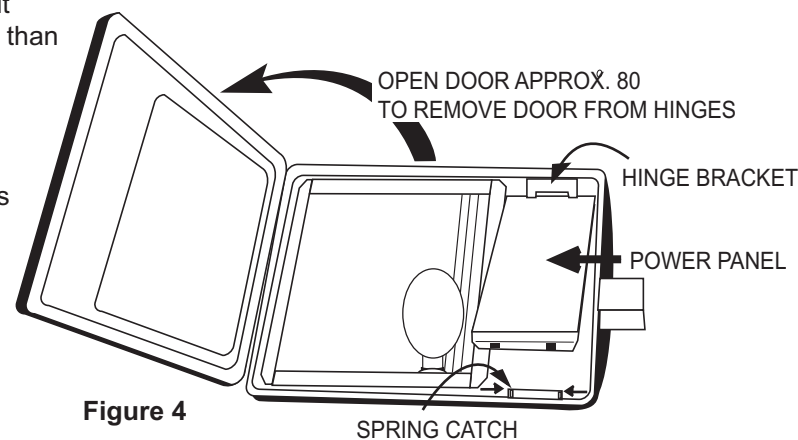

Figure 4
1. To lighten fixture for easier handling, loosen two door screws with Phillips-head screwdriver. Note: These screws are captive, do not remove completely! Swing door open, and remove door from hinges. Set door aside (See Fig. 4).